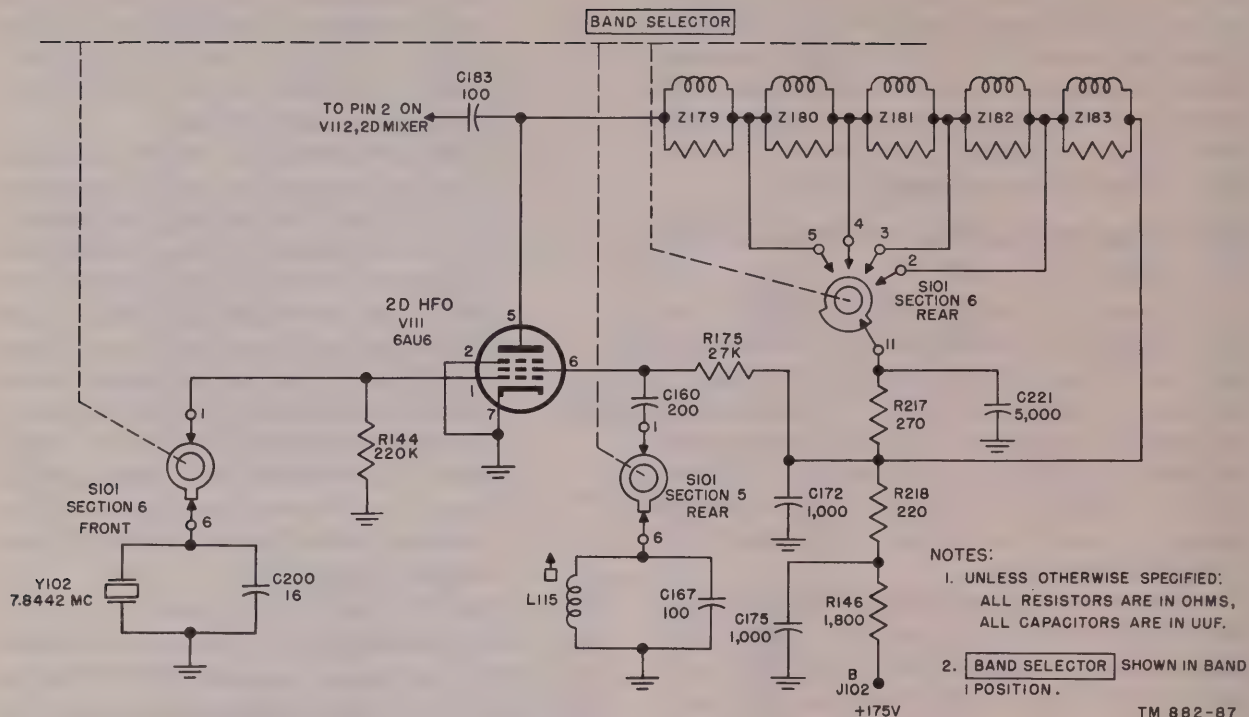

Figure 31. Crystal oscillator on band 1, simplified schematic diagram.
- (1) Bands 1, 2, and 3 (fig. 31). On bands 1, 2, and 3, the second high-frequency oscillator uses a Miller circuit, oscillating at the parallel-resonant frequency of the crystal. The LCR of crystal Y102 are shunted by C200 which masks the capacity of the crystal holder. Resistor R144 limits the crystal current and provides operating bias. The parallel combination acts like the grid tank of a conventional tuned-plate tuned-grid oscillator; the plate circuit consists of L115 and C167. Feedback is through the inter-electrode capacity of the tube. Capacitor C160 is a blocking capacitor and C183 is the coupling capacitor to the second mixer stage. B+ is applied to the plate (pin 5) of V111 through impedances (Z179 through Z183), and to the screen grid through voltage-dropping resistor R175. Capacitor C175 is an rf bypass used with R146 for decoupling. Additional decoupling is provided by R218 and C172. Capacitor C221 is an rf bypass capacitor.
Coupling to the second mixer is the same, and the functions of R175, R144, and impedances Z179 through Z183 remain unchanged, but here the crystal oscillates at its natural or series-resonant frequency. On band 4, the inductance of Z157 cancels the capacitance of the crystal and holder and damps any tendency of the crystal to operate in a spurious mode. The shunt resistance of Z157 further aids the damping action. The series-resonant circuit, consisting of C164 and L112, acts as a selective feed-back path allowing feedback to occur only in the vicinity of the desired frequency. The resistors shunted across the coils are mounted inside the coil forms. Their purpose is to keep the output constant on all bands. Resistor R217 reduces the output on the low-frequency bands still more, so that it will be the same as the output of the others. This is shown in figures 31 and 32. As switch S101 is turned toward the higher numbers, more coils are shorted out, and the stage operates at a higher frequency.